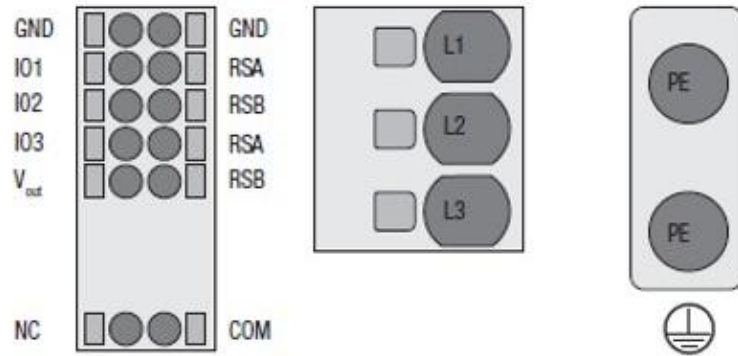
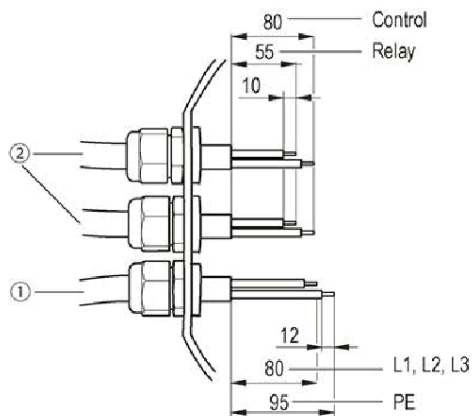

Figure 21. Terminal Block Diagram
Figure 24. Recommended Stripped Lengths (Inside Terminal Box) (1) Supply Line (2) Control and Relay Line
- Remove caps from the cable glands. Label and remove wiring from terminal blocks shown in **Figure 21**. Carefully tag these wires properly to ensure that they are connected at the same location on the new fan. These wires carry polarity sensitive signals.
12. Wire terminal blocks shown in **Figure 21** following the wire labels created in **Step 4**. Refer to **Table 5** for more information on connection designations. Only strip the cable as far as necessary, ensuring that the cable glands are sealed and there is no strain on the connections. Recommended stripped lengths (inside terminal box) are shown in **Figure 24**, (1) supply line (2) control and relay line. After terminating the wire, pull-test the wire to ensure proper installation.